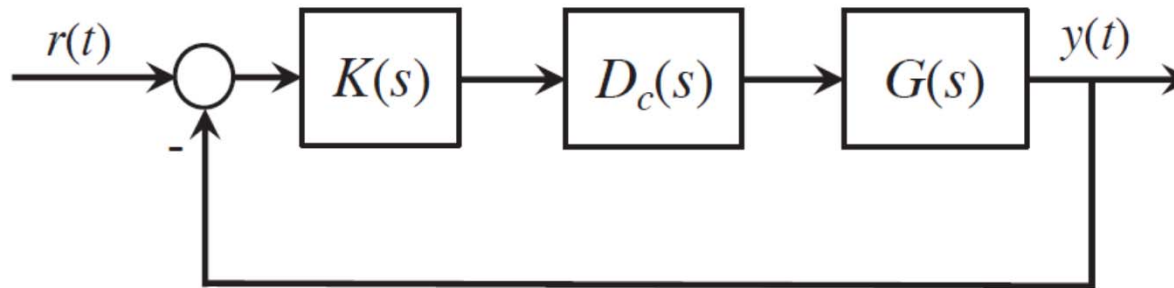

Figure 1: Feedback Control System
4. Consider the feedback control system shown in Figure 1 where  $K(s) = K$  and  $G(s) = \frac{1}{s(s+1)}$ .